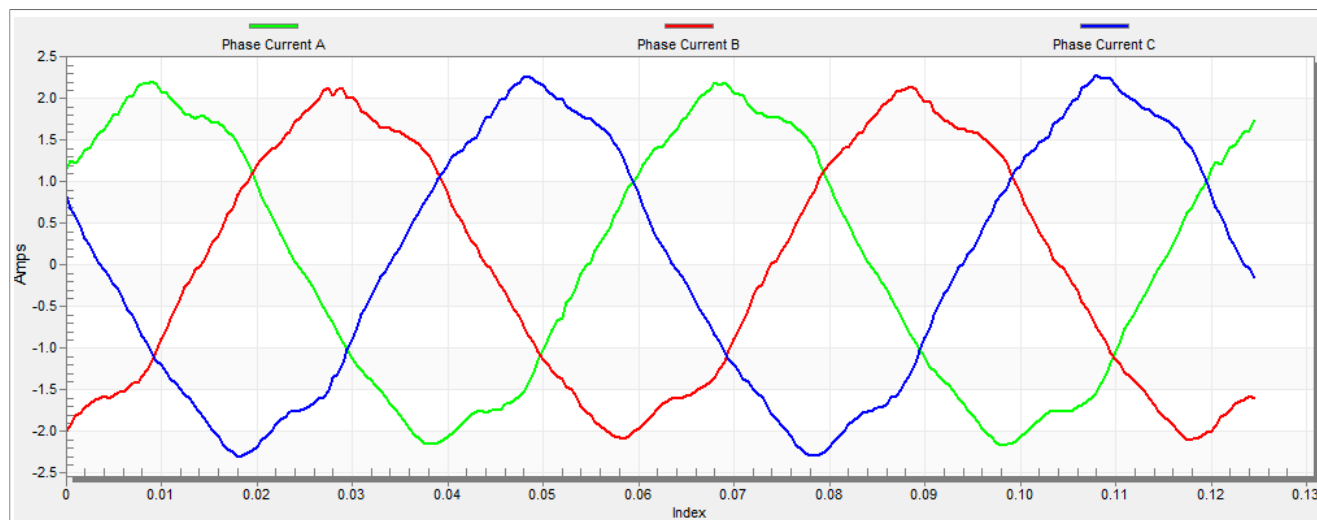

Figure 29. Phase currents
5. The optimal ratio for the V/Hz profile can be found by changing the V/Hz factor directly using MCAT input "Scalar V/Hz factor ratio". The shape of the motor currents should be close to a sinusoidal shape (Figure 29).